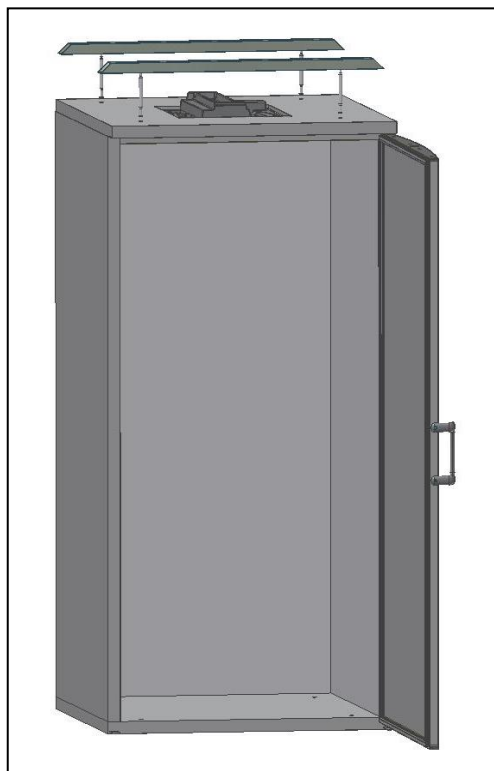

Fig. 12
- Fix the **supports bars** into the holes, by the outside of the cover (Fig.12);